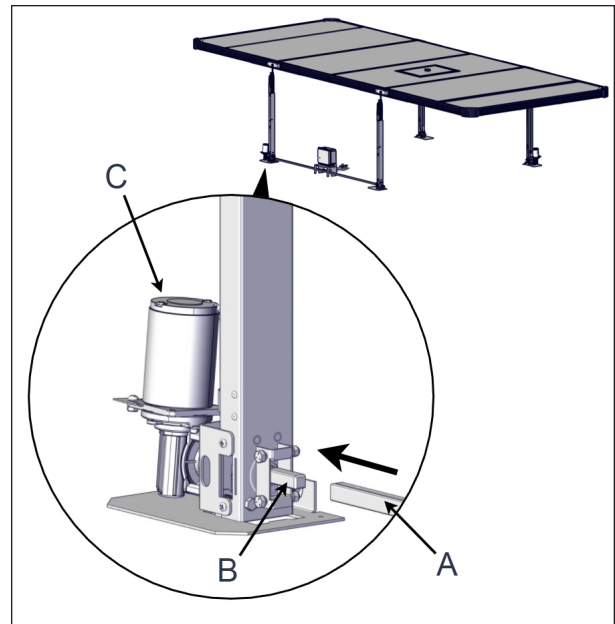

FIGURE 68: DRIVE SHAFT INSTALLATION ON THE MOTOR SIDE
2. Slide the drive shaft over the square shaft of one motor-side jack, see Figure 68.